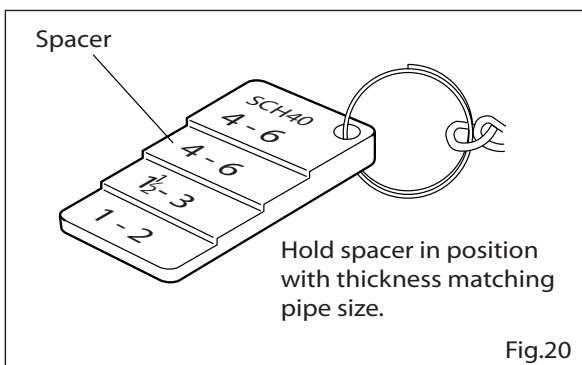

Fig.20
- * Hold the spacer in position so that the thickness matches the size of the pipe you are working on. (Fig. 20)